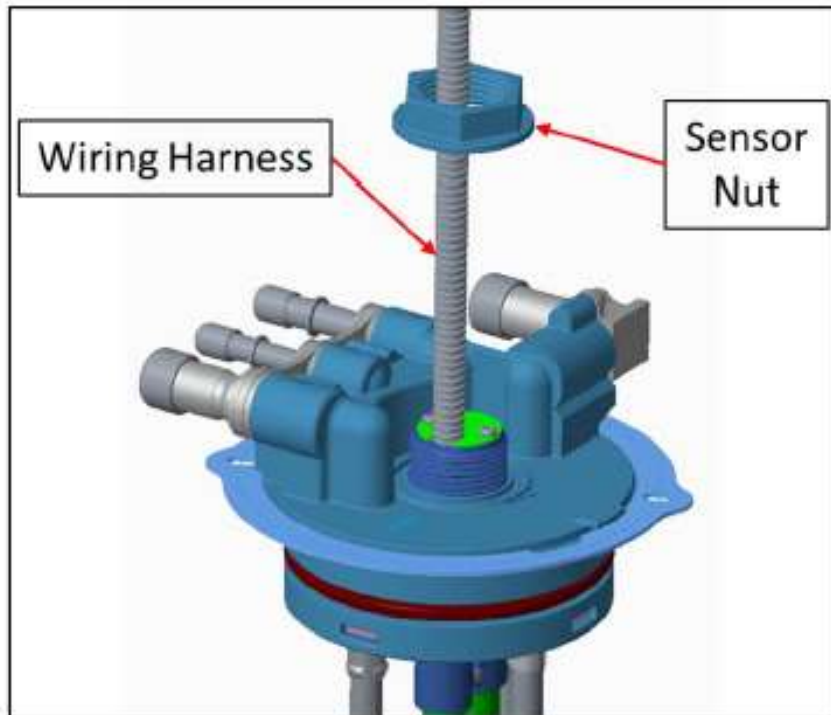

Figure 10: Ensure that the top of the MFHU is clean and tighten the sensor nut.
16. Position the top of the sensor through the mounting base such that the upper threaded portion of the sensor is through the base of the MFHU, as seen in Figure 10 below. Ensure the top surface of the header is clean.